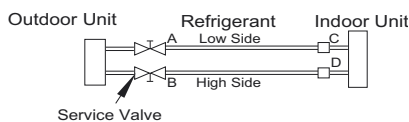

Fig. 16 —Service Valve
1. Completely tighten flare nuts A, B, C, D, connect the manifold gage charge hose to a charge port of the low side service valve (see Fig. 16).